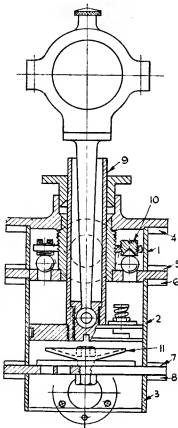
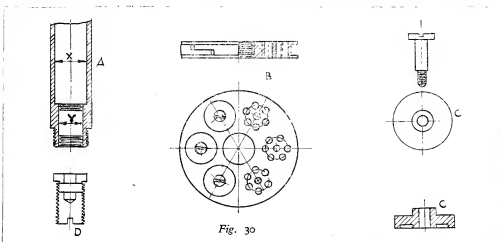
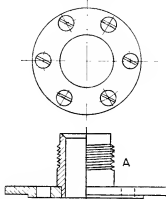

Fig. 29
Fig. 30
Fig. 31
The air-pump was the next item to claim attention. Fig. 29 is a sectional elevation of it, and apart from nuts, bolts and studs, there are 48 pieces involved in its construction. The original intention was that the air-pump should be of the Edwards type and single-acting, as this design would have involved much less work in its construction; but investigation of the capacity revealed that the stroke would have had to be very long, and the diameter very much greater than that now fitted. The next obstacle to be met was the fact that nothing large enough in diameter was available; so, to retain the existing diameter, the stroke would have to be greatly increased. The drive for the pump being by eccentric, double the present stroke which, by the way, is $\frac{1}{2}$ in., would have been necessary, and this, of course, was out of the question. The only solution was for the pump to be double-acting, $1\frac{1}{2}$ -in. bore by $\frac{1}{2}$ -in. stroke. Then the fun began. It must be remembered that, at the time this was under construction, no castings could be obtained, even if one made the patterns; so the whole pump had to be fabricated.
A piece of solid-drawn brass tube, which was once a portion of an Evinrude outboard motor and approximately $1\frac{1}{2}$ -in. inside diameter, was available and from this the body of the pump was made. Three pieces, Fig. 29, 1, 2, and 3, were cut off, and the ends turned up square, and to the requisite length, allowing about $1/32$ in. to be cleaned off after the flanges were in position. These were all the parts that were required to make the body.
The next thing required was the seating for the head-valves, Fig. 31; this was a portion which required careful handling, as, apart from being the head-valve seat, it carried the guide for the trunk, which must be absolutely concentric with the air-pump barrel, 2, Fig. 29, in addition to being the guide for the trunk 9, Fig. 29. This guide spigots into the top cover of the pump, and forms the lower portion of the cover stuffing-box, so it will readily
The guide and valve-seat were now forced on the mandrel, using the tailstock spindle to force it on, and the whole of the external part of the guide turned, including the threaded part, A, Fig. 31, which is screwed 36 threads per inch. The purpose of this will be referred to later on. The spigot on the opposite side of the valve-seating was now turned to be a good fit in 2, Fig. 29. The top side of the valve-seating was again trued up, and finally the outside diameter was turned to finished size. The holes in the valve-seating were marked off and drilled; they were six in number and $7/32$ in. diameter.
bit less than the thickness of the rubber. What is a tiniest bit? Well just sufficient for the valve-guard, 11, Fig. 29, to clamp the rubber in its place; 0.004 in. would be ample.
The valve-guard is a piece of brass $\frac{1}{8}$ in. thick dished over a hole to the shape shown at 11, Fig. 29. The hole in the centre of the valve-guard is a fit on the screwed portion of stud, A, and is held in position by the nut and washer as shown in Fig. 29. One thing about this guard is important; a series of holes should be drilled through it; their positions do not much matter except for the sake of appearance. The idea of these holes is to prevent the rubber sticking to the guard under working conditions; the rubber should joint on the valve-seating and not on the guard.
We will now consider the piston, or bucket, as it is usually known. Figs. 29 and 30 are intended to show the details of this part of the job, which, by the way is the most important fitting of all; for, if the bucket is not a good job, the hope of a vacuum being obtained in the
pitch-circle diameter, and the same pitch as the holes in valve seating, six No. 1 B.A. tapping-holes were drilled, and in each of these holes was screwed, also a snug fit, a short brass screw having a conical recess in the bottom end (see 10, Fig. 29). These screws were fitted in order to limit the lift of the head-valves, which are stainless steel balls, and so prevent them leaving their place of duty. The external diameter of the washer was kept as small as possible in order to prevent it interfering with the free flow of the water when the pump is at work. Fig. 31 shows the detail.
condenser would be futile. The first operation was to make the trunk 9, Fig. 29 and A, Fig. 30. In addition to being the guide for the bucket, it holds the gudgeon-pin for the eccentric-rod which gives the bucket its motion. The position for this pin is as near the centre in every direction of the bucket as possible; this position prevents any possibility of the bucket oscillating during its upward or downward movement; also, the longer the eccentric-rod, measured from the centre of the crankshaft, the less tendency is there for the rod to bend, or the bucket to rock.
Reference to X, Fig. 30, will make it clear
that we are boring to get diameter X whilst retaining diameter Y. The bore Y is now screwed 36 threads per inch $\times \frac{3}{8}$ in. diameter. The external diameter of A is now finished so that it is a fit in the bore of the guide, Fig. 31. This must be a good fit, otherwise the advantage of the guide is partly lost.
A hole was drilled, bored and screw-cut a good fit for the reduced end of the trunk, which was then removed from the lathe, and a suitable screwed mandrel made on which the piece could be held in the chuck, turned all over, and finished to a piston-fit in the bore of piece 2, Fig. 29. The groove for the piston-ring was then turned, and the pitch-circle for the holes for the valves and their spindles marked-off (see B, Fig. 30). The holes were marked off, and
The valves were next made, they are on the lines of the Kinghorn valves which are used in modern practice, but not true Kinghorn pattern. C, Fig. 30, will explain their shape; as will be noted, they are relieved on their working face just sufficiently to clear the holes in bucket. The same figure (C) shows one of the guides on which the valves work. Each valve was separately ground whilst on its guide, in the position which it would finally occupy; fine carborundum paste was used at first, then a second grinding using "Brasso." When a satisfactory bearing was obtained, they were assembled, on their guide pins with a very fine spiral spring of hard brass wire behind them, as seen in Fig. 29. In order to obtain wire fine enough for this purpose, the barrel of a Yale lock was wrecked, these springs will be found behind the small plungers in the barrel of the lock.
The portion D, Fig. 30, was next made; this is nothing more than a brass plug, with a collar on it, which latter is the same diameter as the larger part of the bore in A, Fig. 30, and screw-cut a good fit in the part Y. When screwed into its position the under-side of the collar makes a good joint at the bottom of bore, X, A, Fig. 30. A slot is milled across the centre of the plug wide enough to take the small end of the eccentric-rod, and a hole drilled through at right-angles to the slot to accommodate the eccentric-rod guide-pin.
This completes the construction of the pump, except for marking-off and drilling bolt holes for jointing the various sections. There are eight 4-BA bolts in each joint and four 3/32 in. studs for tightening the gland in the cover. It should have been mentioned that at the bottom of the chamber, 3, Fig. 29, is a plain disc silver-soldered in position.
of 1, Fig. 29. The cover was made in two pieces, i.e., the stuffing-box, and cover proper; they were shrunk together, bored, mounted on a mandrel and finished off. The top of the guide on the head-valve seat spigots into the under-side of the cover stuffing-box, and this spigot must be a good fit.
The suction and discharge branches were then made, and soft-soldered into the sides of 1 and 3, Fig. 29. They were soft-soldered because it was not considered wise to risk heating the parts 1 and 3 to the temperature required for silver-soldering, and as no pressure was involved other than that of the atmosphere, soft-solder was good enough. The flanges,